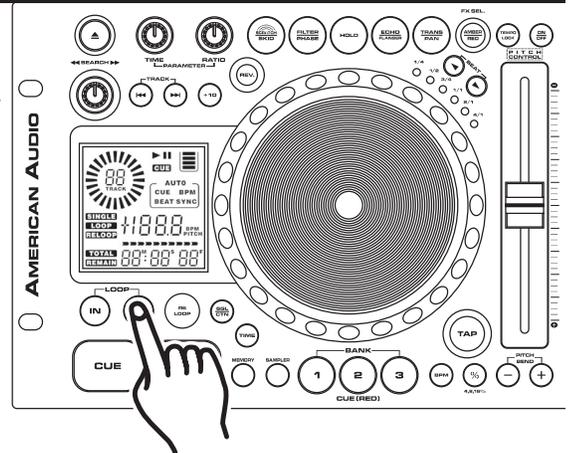

Figure 21
EXITING A LOOP - To exit a SEAMLESS LOOP, press the **OUT BUTTON (24)**. The **IN BUTTON (25)** and **OUT BUTTON (24)** L.E.D.s will remain on, but will stop flashing. Music playback will resume normal play (Figure 21). The **IN BUTTON (25)** and **OUT BUTTON (24)** L.E.D.s will remain on to remind you that a loop is stored in memory.
- 1) Press the **OUT BUTTON (24)** to return to normal play from the loops cue point. (Figure 21). This will disengage the SEAMLESS LOOP mode and allows you to edit the loops ending point.
- 2) Press the **OUT BUTTON (24)** again when you reach your new ending point (Figure 21).